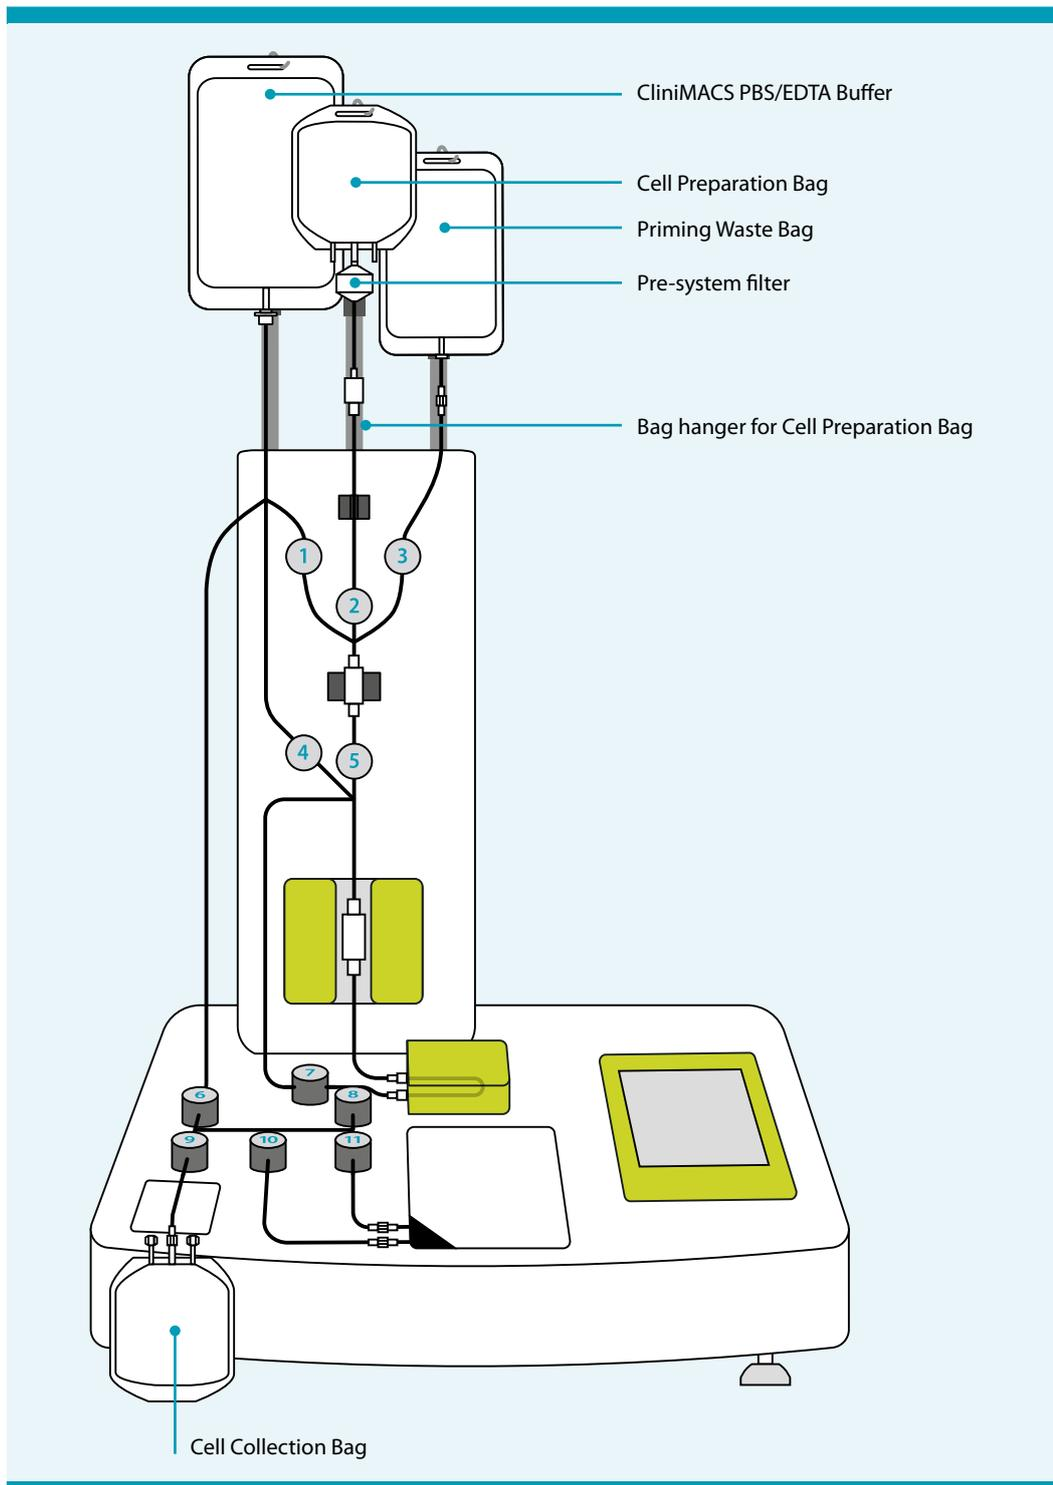

Figure 7.10: CliniMACS Plus Instrument with CliniMACS Tubing Set, CliniMACS PBS/EDTA Buffer, Cell Preparation Bag, and Cell Collection Bag
2. Remove the cap from the blunt end of the pre-system filter (see Figure 7.10). Firmly insert the spike into the pre-system filter.